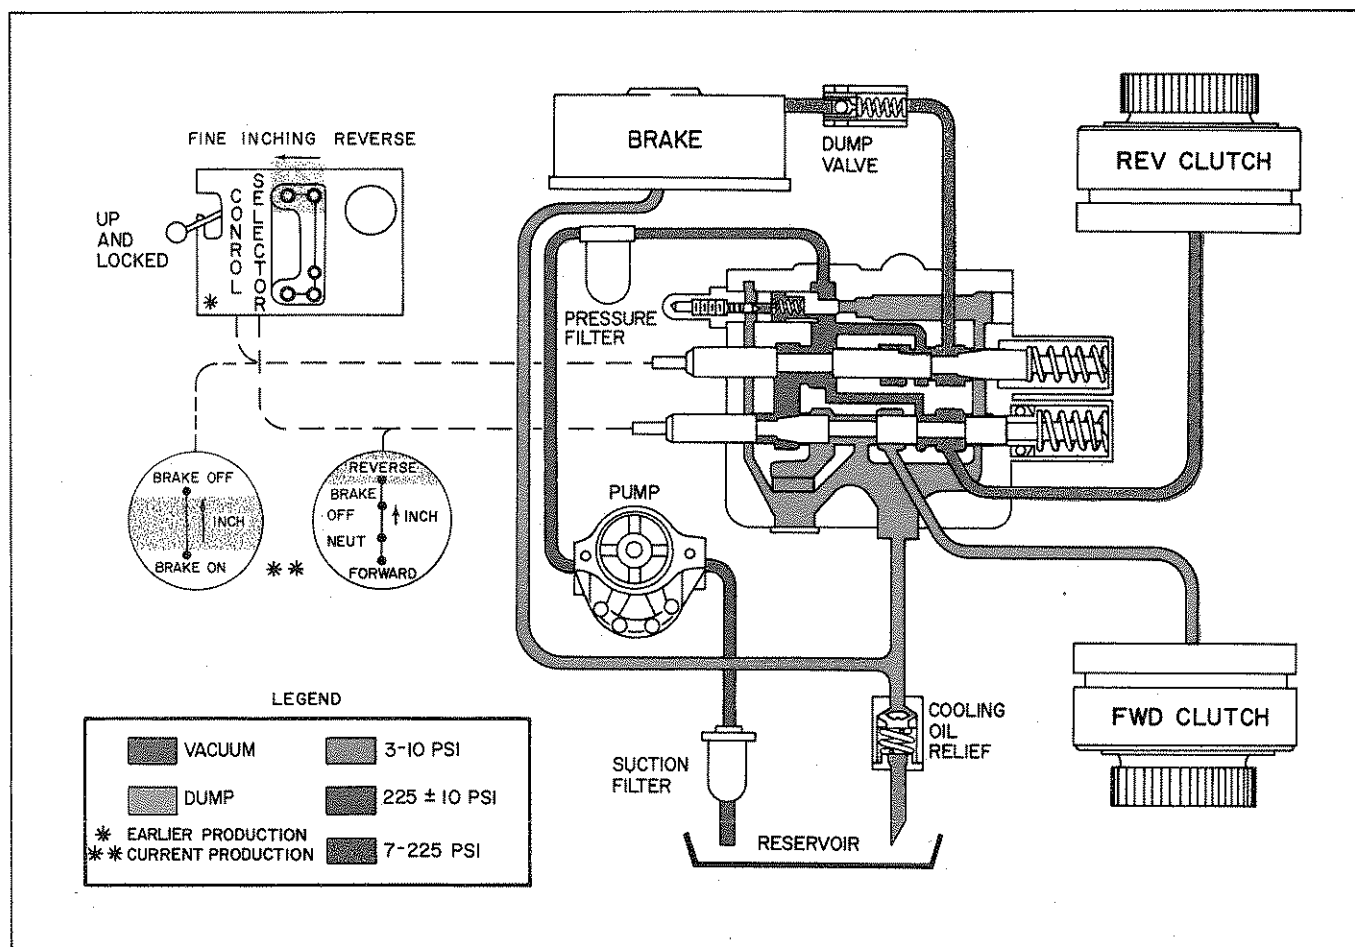

Figure 1-18. Hydraulic Flow Diagram, Reverse Inching, Brake Slipping
1-31. HYDRAULIC SYSTEM IN REVERSE INCHING, BRAKE SLIPPING. (See Figure 1-18.) On Earlier Production Handling Gear, the system is placed in REVERSE INCHING OPERATION by: (1) Moving the Control Lever Up and locking it in place and (2) Moving the Selector Lever toward the front of the handlever housing. On the Current Production Handling Gear, this is accomplished by (1) Holding the Selector Lever in the REVERSE position and (2) Moving the Inching Lever toward the BRAKE OFF position. When the Selector Lever (Earlier Production) is moved toward the front of the handlever housing or the